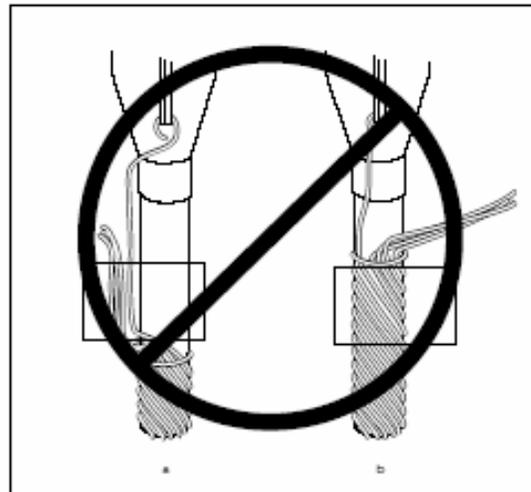

Figure 3.
Some installations of improper preparation of the primary cable will result in an inoperable FCI (see Figure 3a and 3b). The magnetic field, due to current in the center conductor, will be cancelled by the current in the concentric neutral wires. **DO NOT PREPARE THE PRIMARY CABLE IN ACCORDANCE WITH THE METHODS SHOWN IN FIGURE 3!**
1. Punch or drill four 0.5" (13 mm) and one 1.75" (45 mm) holes as shown in Figure 3. Hole rims may need to be treated for corrosion resistance. Consult enclosure manufacturer for recommendation.